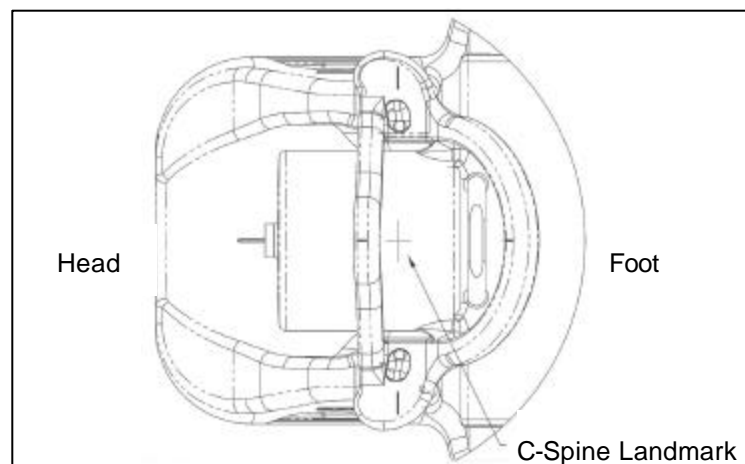

Figure 9: C-Spine landmark.
6. Landmark the coil at the center of the C-Spine area (see *Figure 9*).
5. Landmark the coil at the center of the C-Spine area. Refer to *Figure 9*.
- Remove the test cable and put the test jumper of channel 3 to the original scan mode position (refer to *Figure 9*).